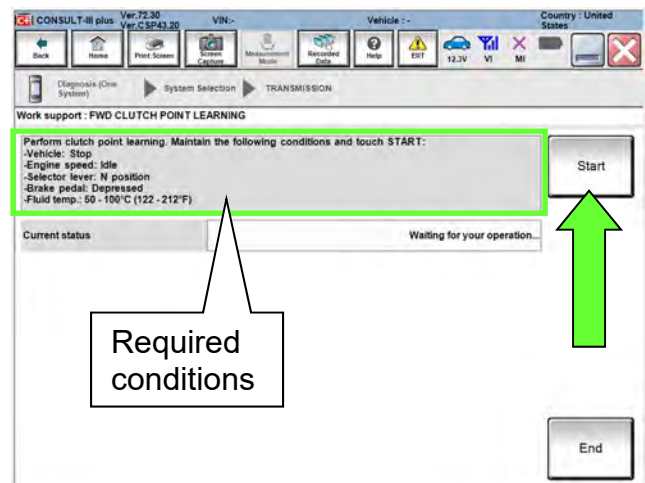

Figure 180
- Confirm that all of the conditions indicated in Figure 180 are being met.
183. While maintaining all conditions shown in Figure 180 and the Current status indicates EXECUTING, shift the CVT into **R** and then wait until the Current status indicates COMPLETED.